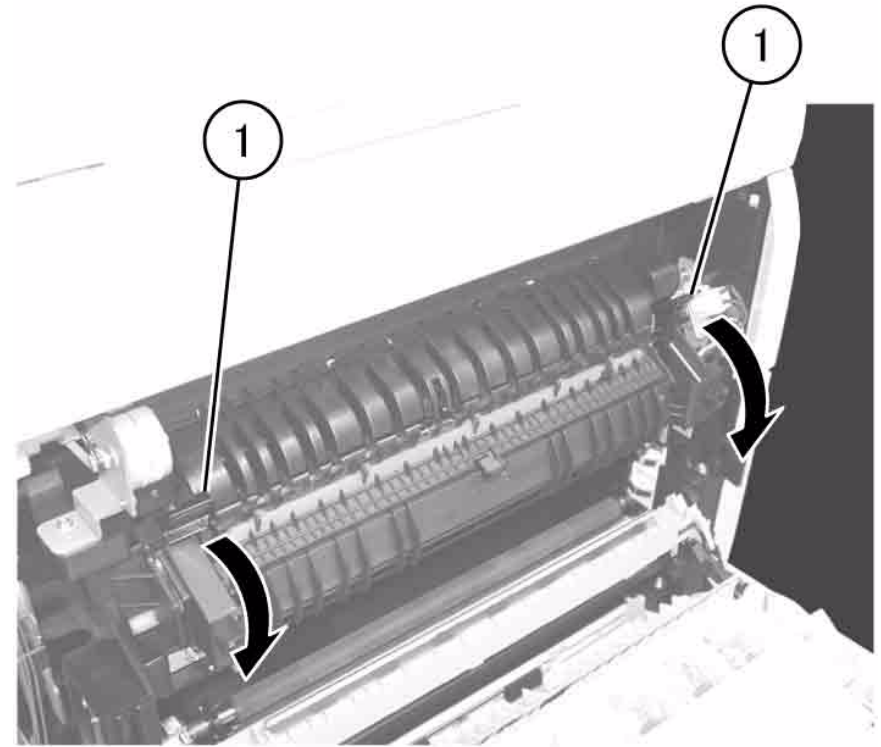

Figure 3 Lower Fuser Levers
5. Lower the Fuser levers (2) (Figure 3).